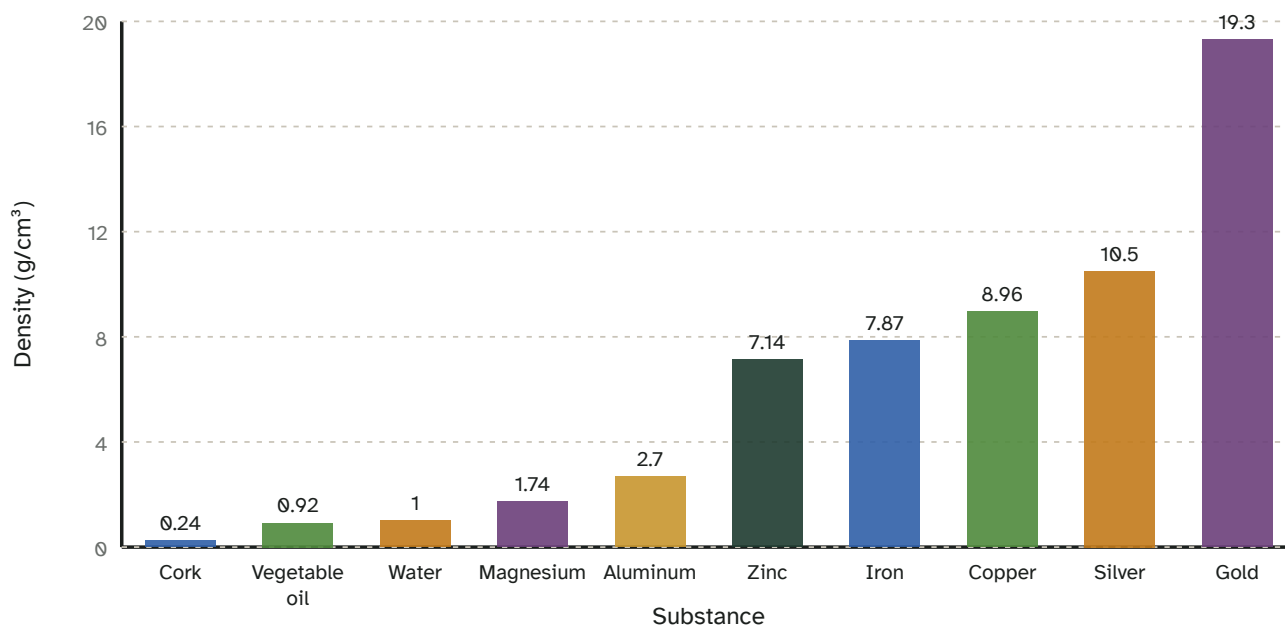

Figure 1. Real rounded densities of ten substances at room temperature. Keep one rule in mind: any substance whose bar is shorter than water's floats on water.
- From Figure 1, which substances would float on water? Which single substance in the chart would float on vegetable oil? Explain how you can tell from the bars.
2. Imagine a cube of gold and a cube of aluminum, each exactly 1 cm on every side. Using Figure 1, find the mass of each cube and how many times more mass the gold cube has. Show your work.